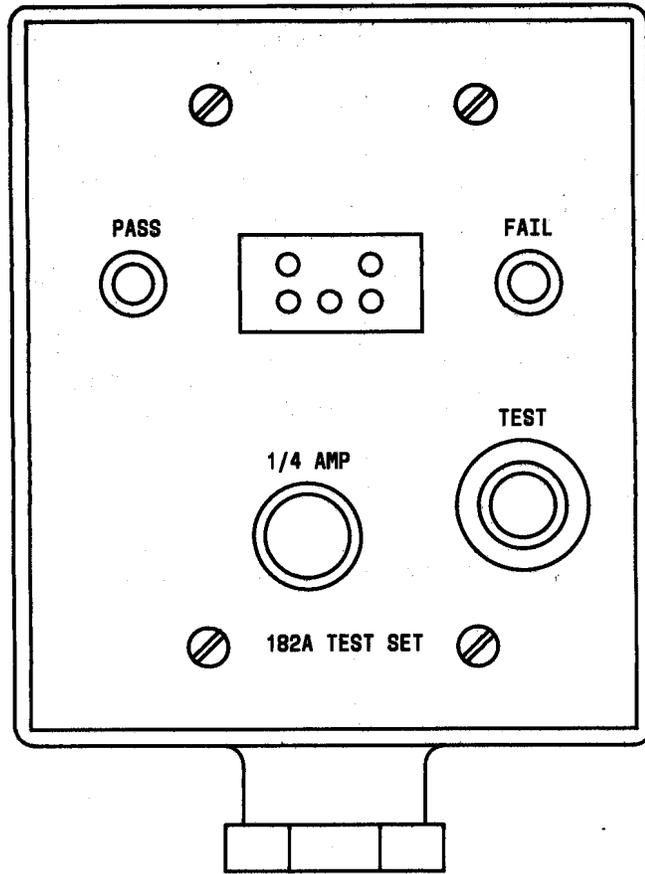
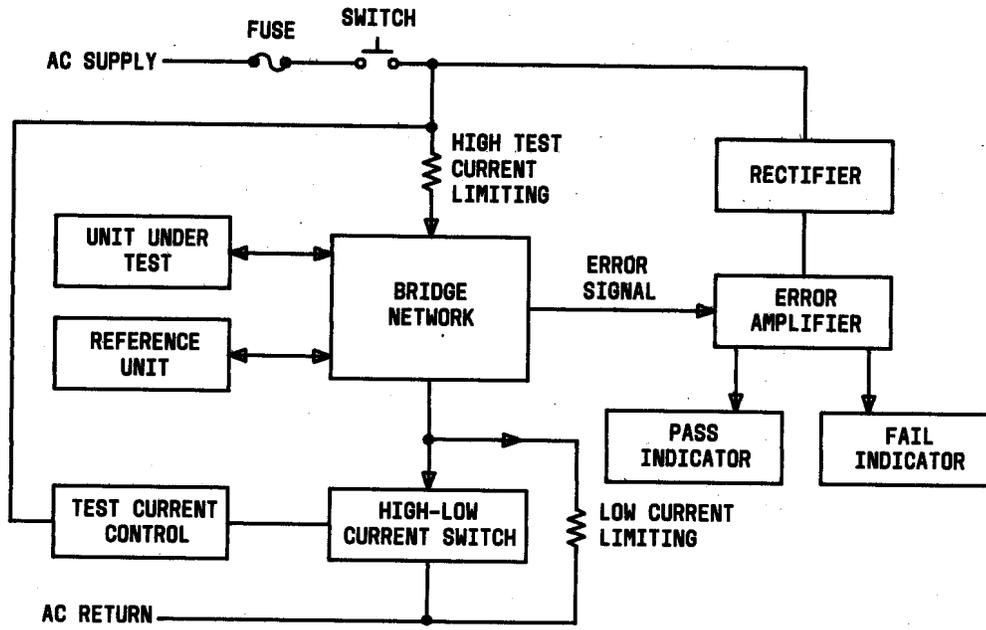

Fig. 4—182A Test Set
Fig. 5—182A Test Set Block Diagram
**1.07** The 182A test set is also housed in a conduit box for wall mounting (Fig. 4). A block diagram of the 182A test set is shown in Figure 5.